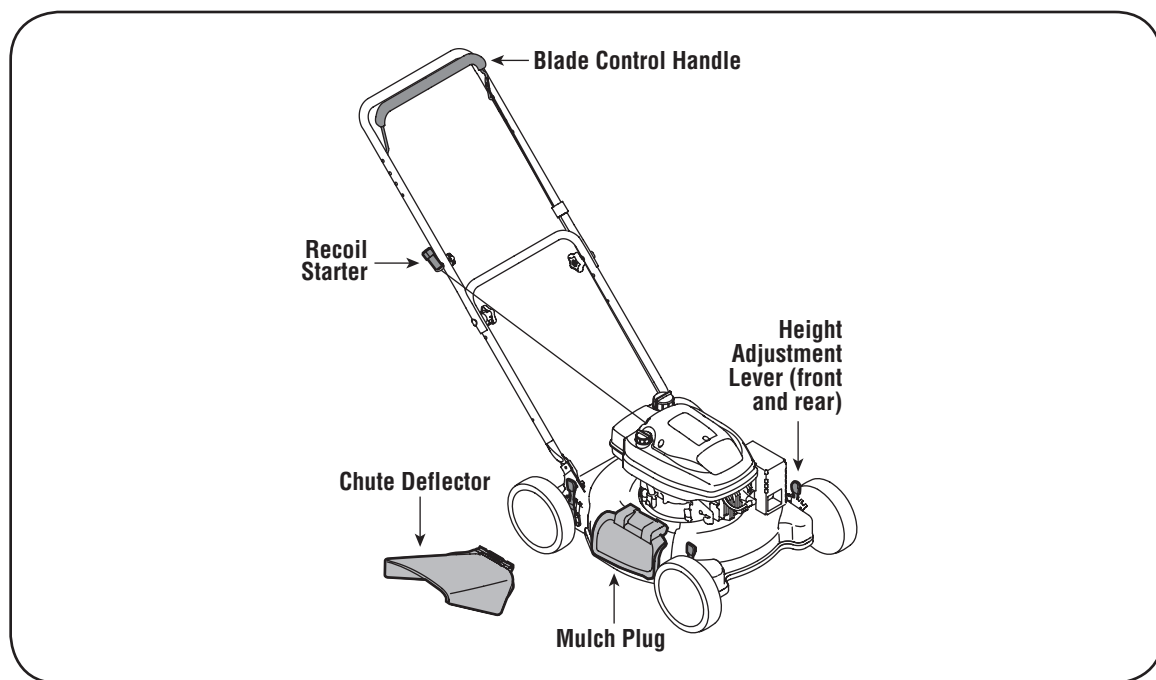

Figure 1
1. Check oil level and add oil if necessary. Follow engine manual for this. See Figure 1 above for location of oil fill.
2. Service the engine with gasoline as instructed in the engine manual. See Figure 1 above for location of gas cap.